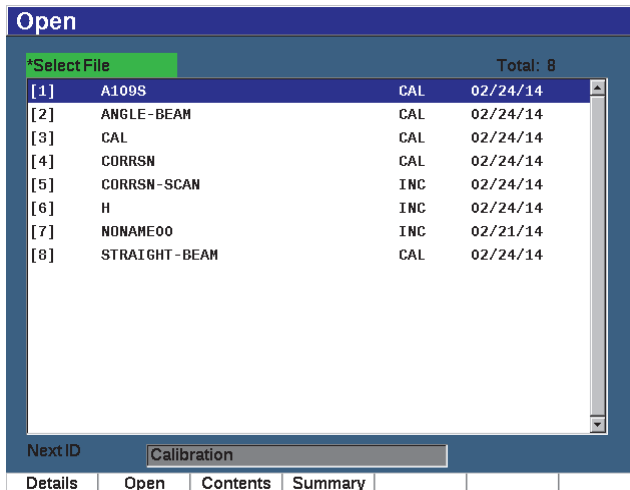

Figure 10-6 The Open page
1. Choose **File > Open** (see Figure 10-6 on page 210).